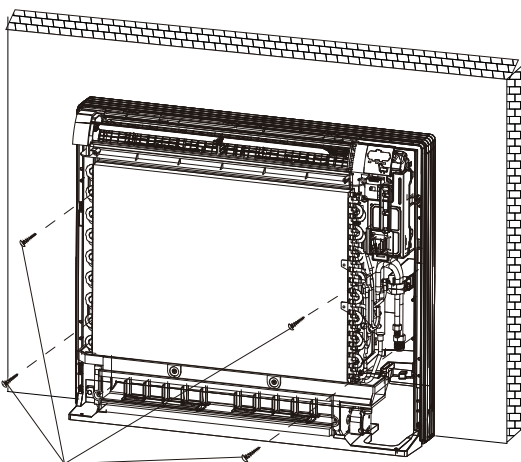

Figure 3.4
- Using 4 screws to secure the indoor unit. (Refer to Figure 3.4)